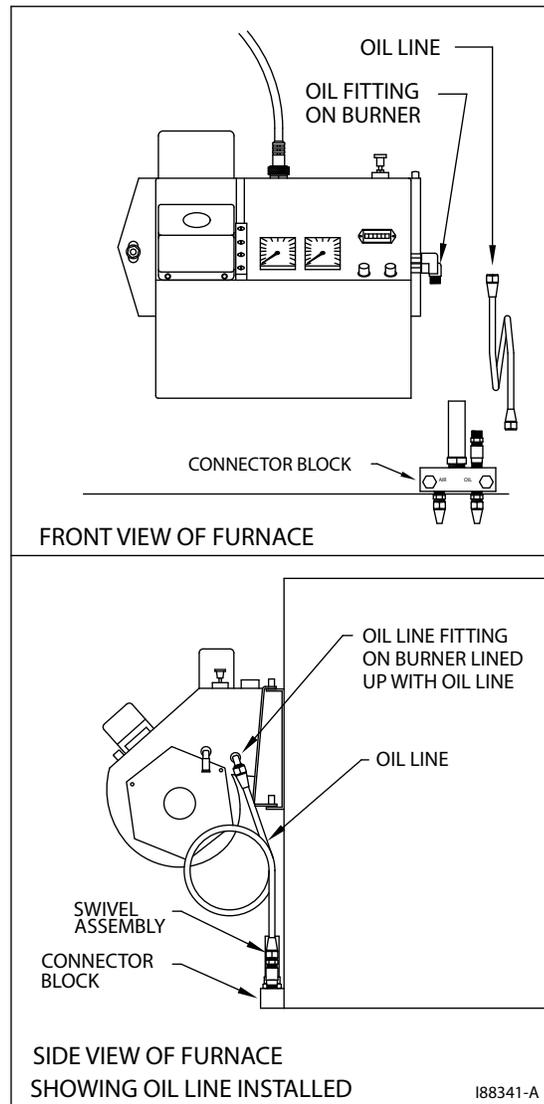

Figure 3I - Installation of Connector Block and Oil Line
1. Refer to Figure 3I.
2. Use the two (2) bolts to install the aluminum connector block onto the furnace door.
3. Use a wrench to slightly rotate the oil line fitting on the burner counterclockwise so the tubing lines up with the swivel assembly. Slightly bend the tubing as shown in Figure 3I, if required, to "line up" the oil line.
5. Make sure that the curl in the oil line is positioned as shown in Figure 3I so that the burner can swing open correctly.